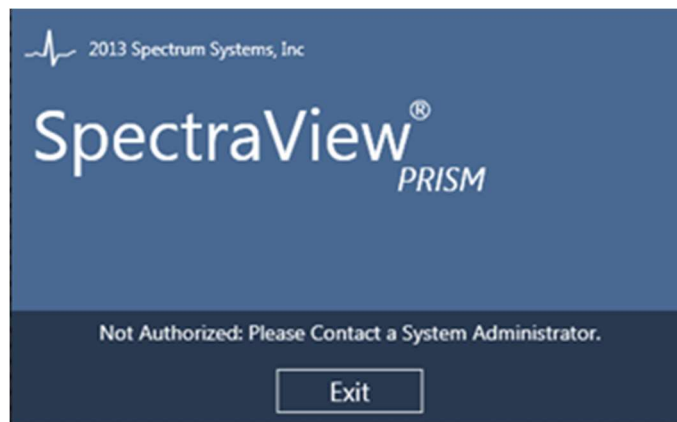

Figure 3-1 Not Authorized Launch Error
- a. The *Not Authorized* error in **FIGURE 3-1** occurs when the application cannot authorize the login for any application privileges.